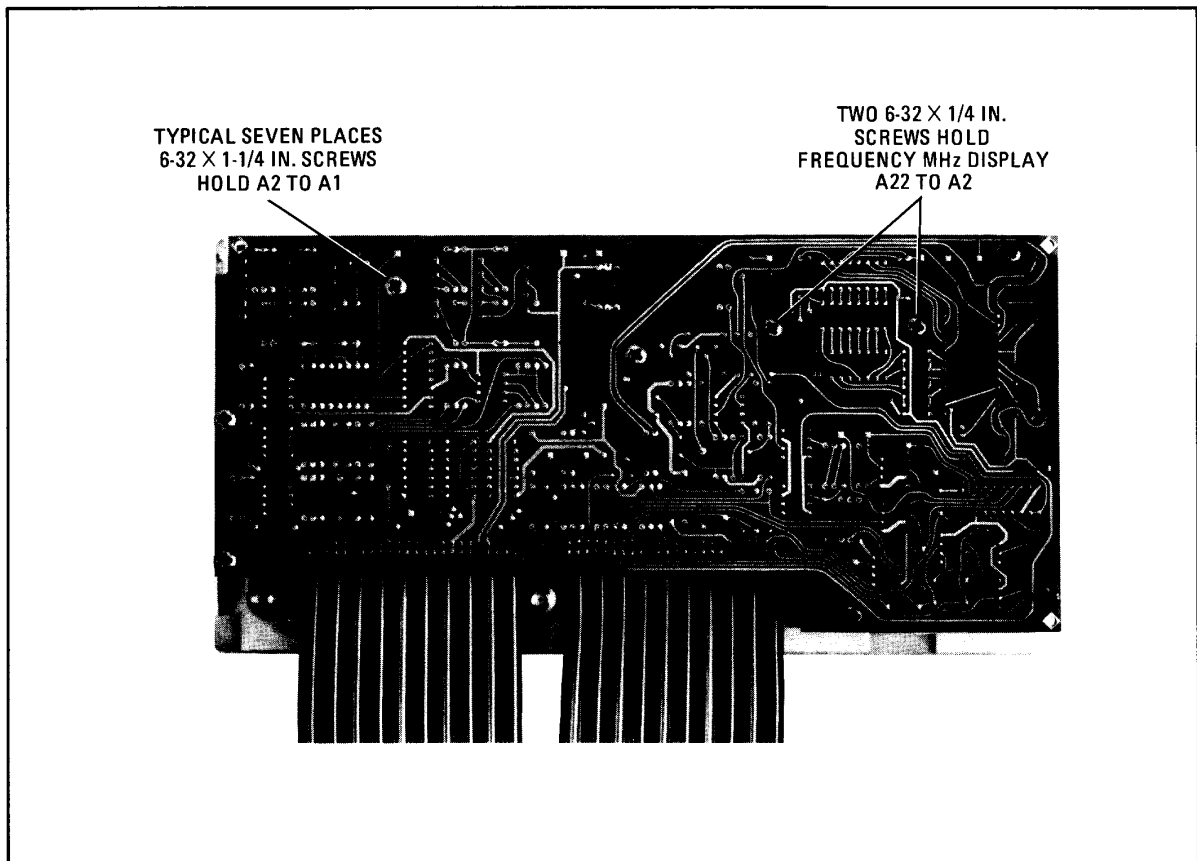

Figure 8-113. Back Side of Front Panel Assembly
2. Remove two 6-32 x 1/4 inch Pozi-Driv screws securing A22 LED Display to A2 Analog Processor. (See Figure 8-113.)
2. Remove seven 6-32 x 1-1/4 inch Pozi-Driv screws securing A2 Analog Processor to the Front Panel Board Assembly. (See Figure 8-113.) Do not remove the two screws that secure LED display to A2 Analog Processor.